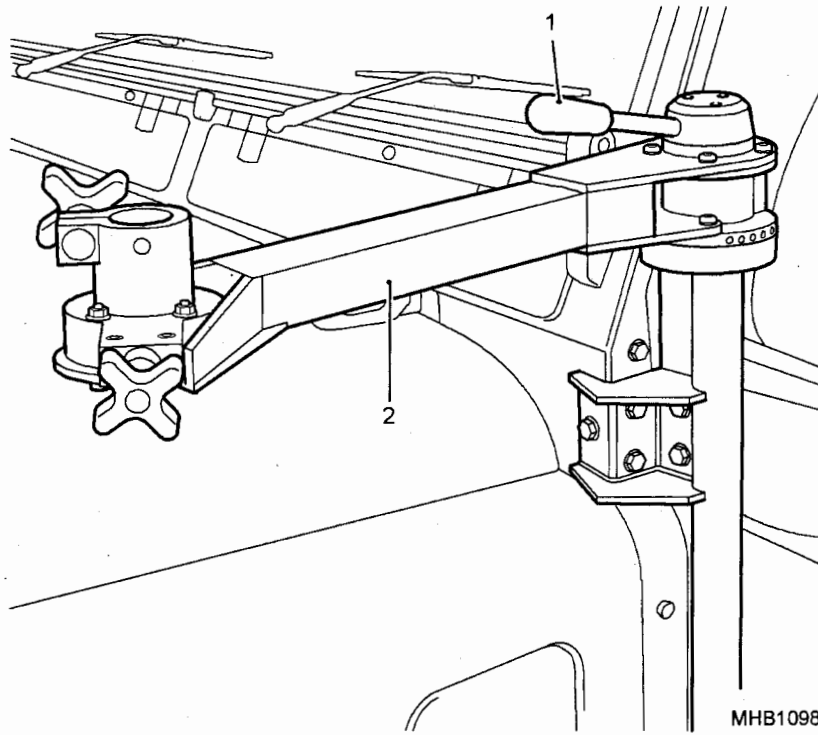

Fig 10 Commanders crew protection mount
14.1 Turn lever (Fig 10 (1)) anti clockwise and rotate swing arm (2) to required position.